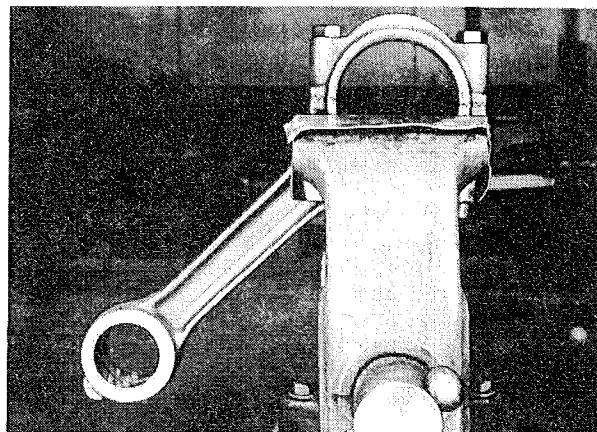

FIG. 35—ROD TORQUED FOR BORE CHECKING
- a. Assemble the bearing cap to the connecting rod and torque to 50 foot-pounds [6,9 kg./m.]. Hold the rod as shown in Fig. 35. Check the crankshaft bore of the rod. The bore cannot be more than 0.002" [0,0508 mm.] out-of-round or oversize. If it is greater, replace the rod.